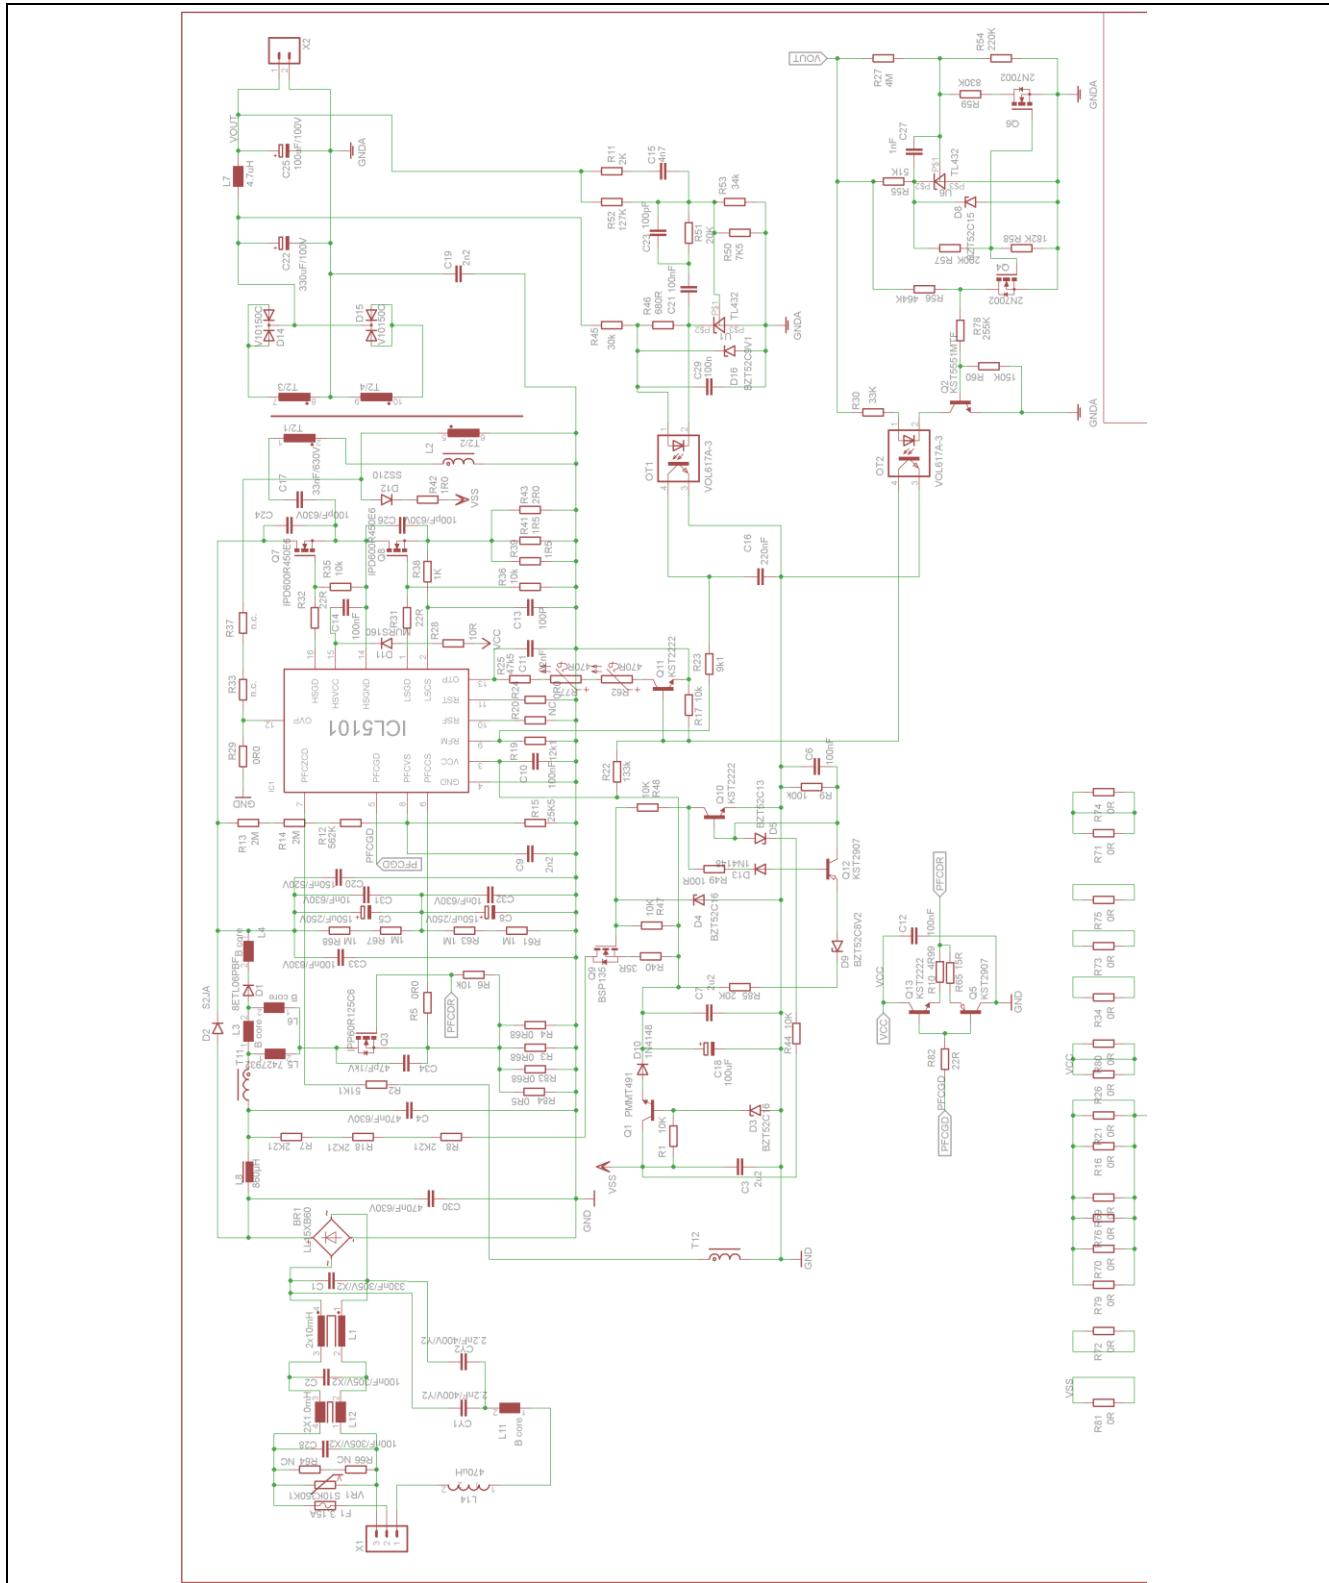

Figure 2 Schematic of 110 W / 54 V Power Supply Demo Board
**Figure 2** shows the schematic of the ICL5101 demonstration board.